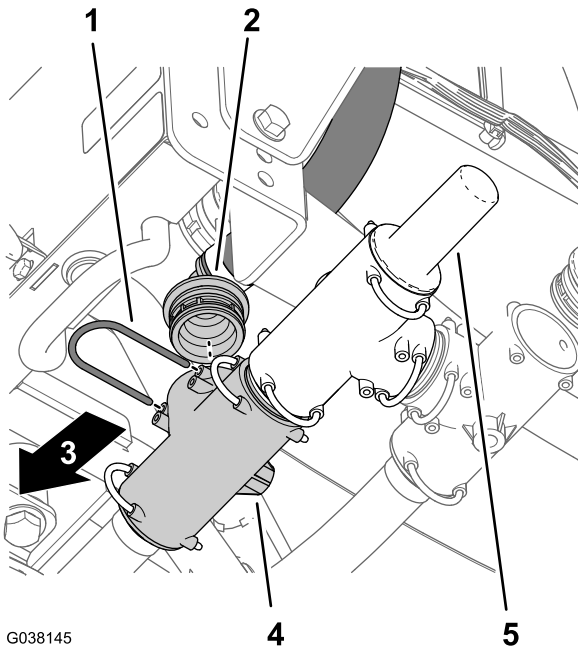

Figure 24
3. Remove the retainer that secures the 90° barbed fitting of the sprayer supply hose to the T-fitting located forward of the pressure-relief valve (Figure 24).
- Remove the 90° barbed fitting from the T-fitting (Figure 24).